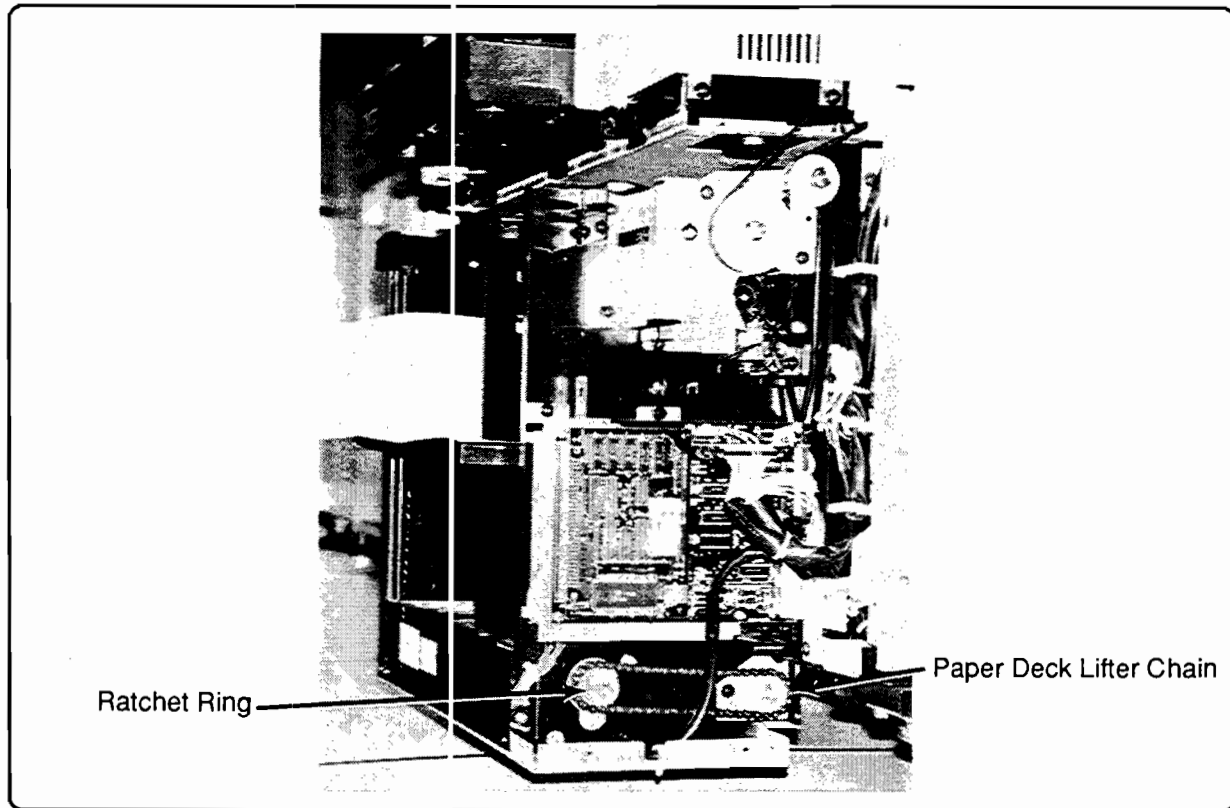
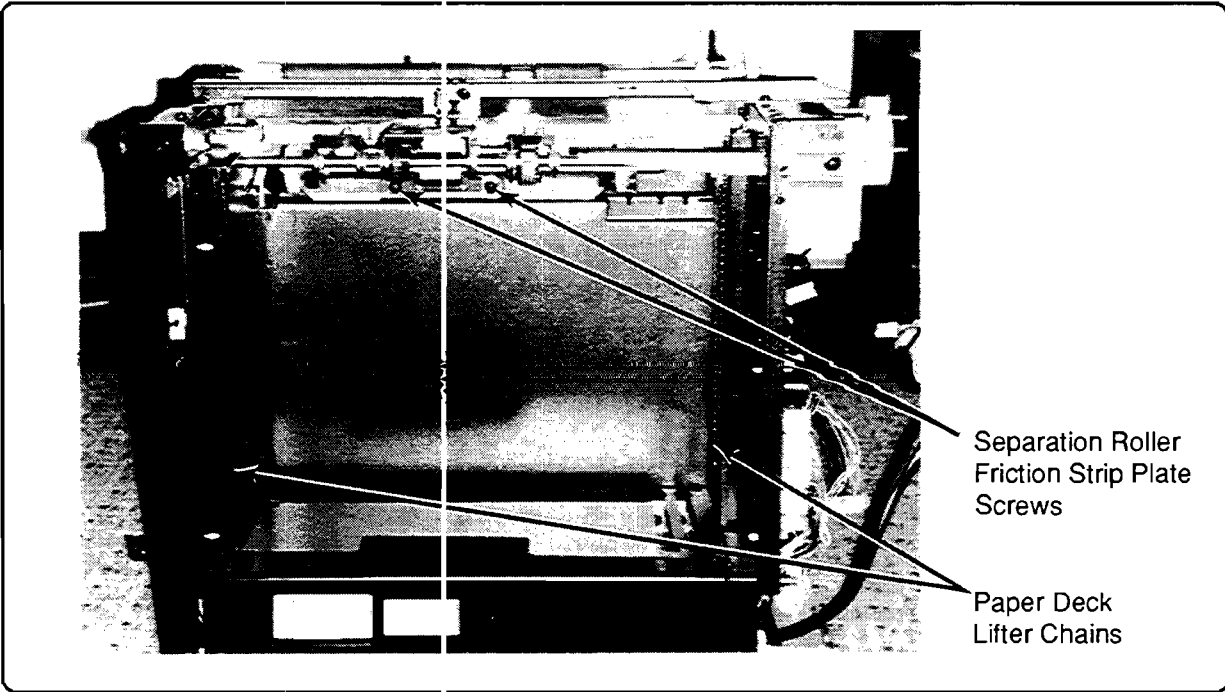

Figure 4-12. Lifter Chain and Ratchet Ring
Figure 4-14. Friction Strip and Lifter Chains
5. Lightly lubricate the paper deck lifter chain below the PDX PCAs lightly with Vactra 2 oil (Figure 4-12).
8. Lubricate the paper deck lifter chains (Figure 4-14) very lightly with Vactra 2 oil. Use a foam swab to reach the chains. Raise deck, lightly lube the length of chain, then lower the deck by pulling on the ratchet ring (Figure 4-12) and lightly lube the length again.
10. Remove the Separation Roller Friction Strip Plate by removing the two screws (Figure 4-14). Clean with Rubber Roller Restorer or replace if any pads are missing (P/N FF1-5480-030CN). Replace at 400-K intervals regardless of the condition. Do not reinstall in PDX yet.
11. Clean the Separation Rollers (2) with Rubber Roller Restorer. **Replace at 400-K intervals** (P/N FA3-2615-000CN).
13. Inspect paper hold-down tabs (2): Make sure they move freely and are not abnormally bent. Compare to one another as a check, adjust (bend), if necessary. Load a small amount of paper (about one inch thick) in the PDX. Manually lift the paper deck up, just to the point where the paper engages and moves the paper hold-down tabs. Ensure that both hold-down tabs move at the same time and that they do cover and hold down the top stack of the paper. If not, adjust (bend) as required. Lower the Paper Deck by slightly lifting up on the tray and pulling on the ratchet ring (Figure 4-12). Observe that the paper hold-down tabs travel down with the paper. If not, adjust (bend) as necessary.